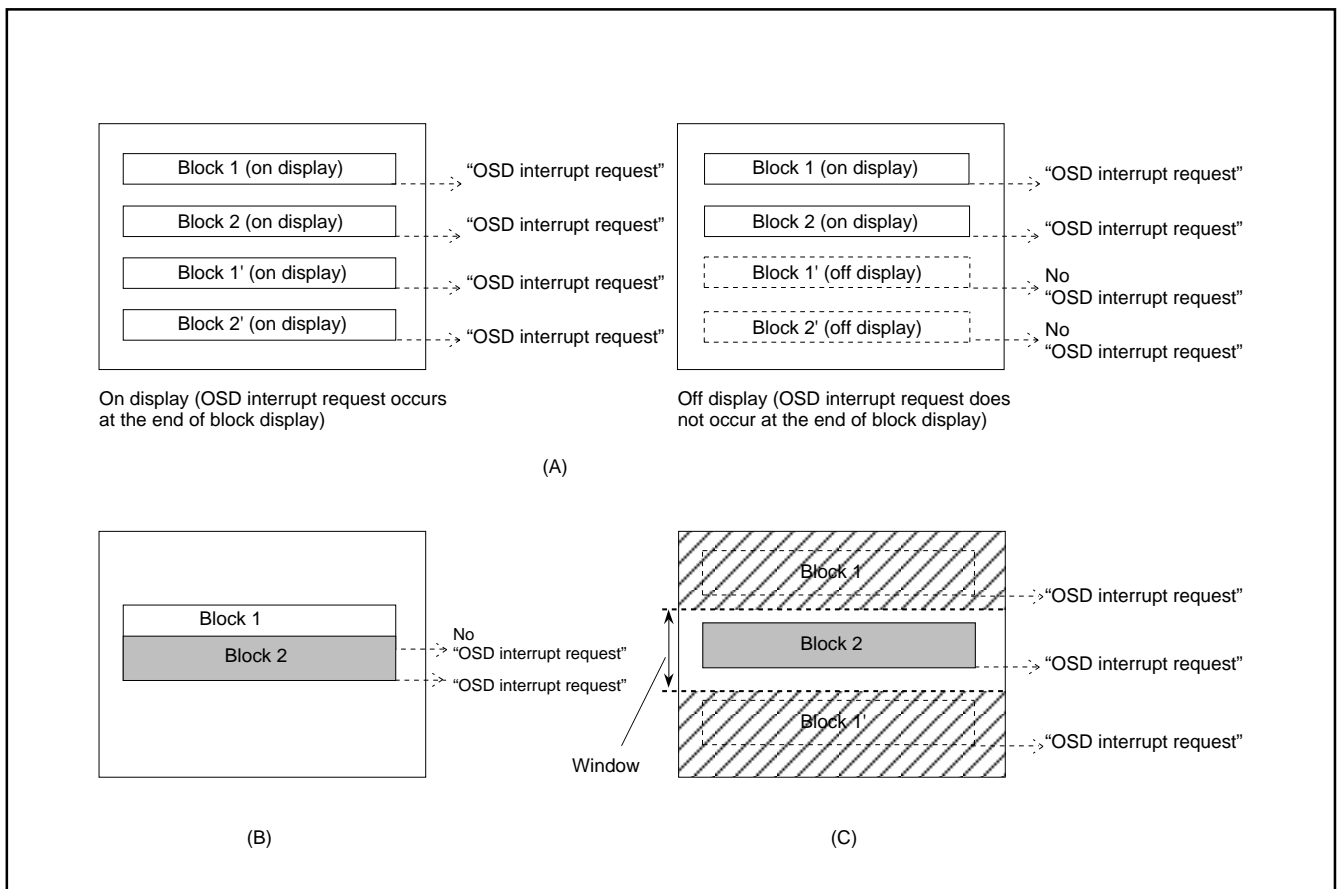

Fig. 8.10.26 Note on Occurrence of OSD Interrupt
- Notes 1:** An OSD interrupt does not occur at the end of display when the block is not displayed. In other words, if a block is set to off display by the display control bit of the block control register i (addresses 00F916 and 00FA16), an OSD interrupt request does not occur (refer to Figure 8.10.26 (A)).
- 2:** When another block display appears while one block is displayed, an OSD interrupt request occurs only once at the end of the another block display (refer to Figure 8.10.26 (B)).